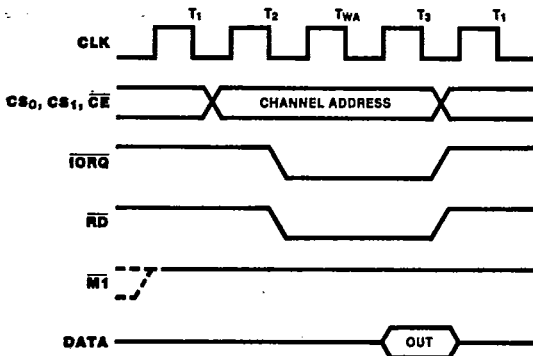

Figure 1. Read Cycle Timing
**Read Cycle Timing.** Figure 1 shows read cycle timing. This cycle reads the contents of a down-counter without disturbing the count. During clock cycle  $T_2$ , the Z80 CPU initiates a read cycle by driving the following inputs Low:  $\overline{RD}$ ,  $\overline{IORQ}$ , and  $\overline{CE}$ . A 2-bit binary code at inputs  $CS_1$  and  $CS_0$  selects the channel to be read.  $M1$  must be High to distinguish this cycle from an interrupt acknowledge.